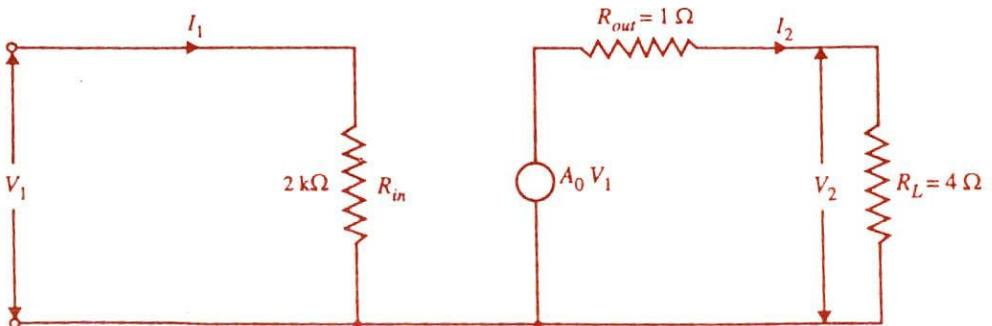

Fig. 12.30
**Solution.** Fig. 12.30 shows the equivalent circuit of the amplifier. Here  $A_0 = 1000$ .